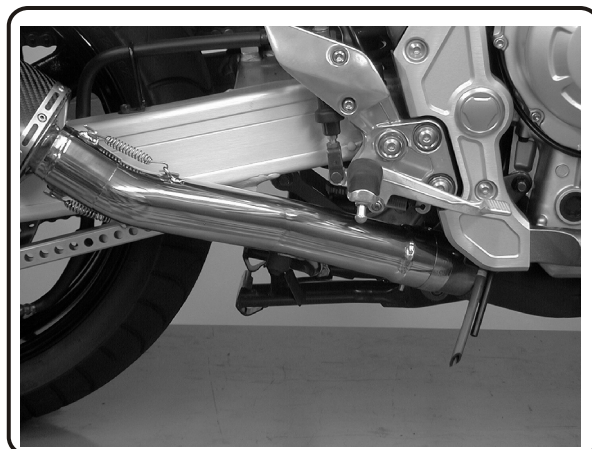

Fig. 1
2. Slip 2.75" stainless steel exhaust clamp over Yoshimura tailpipe and install muffler and tailpipe assembly onto stock header. (See Fig. 1)